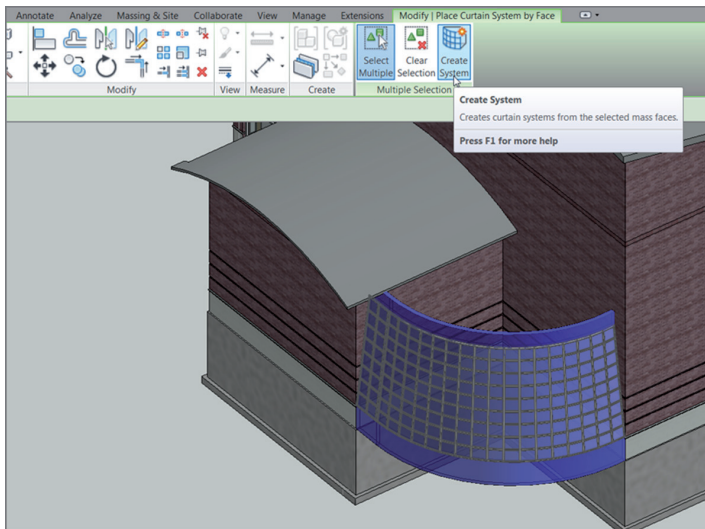

FIGURE BC1.51: The curtain wall in all its glory
12. Click the Create System button, and you have it! (See Figure BC1.51.)